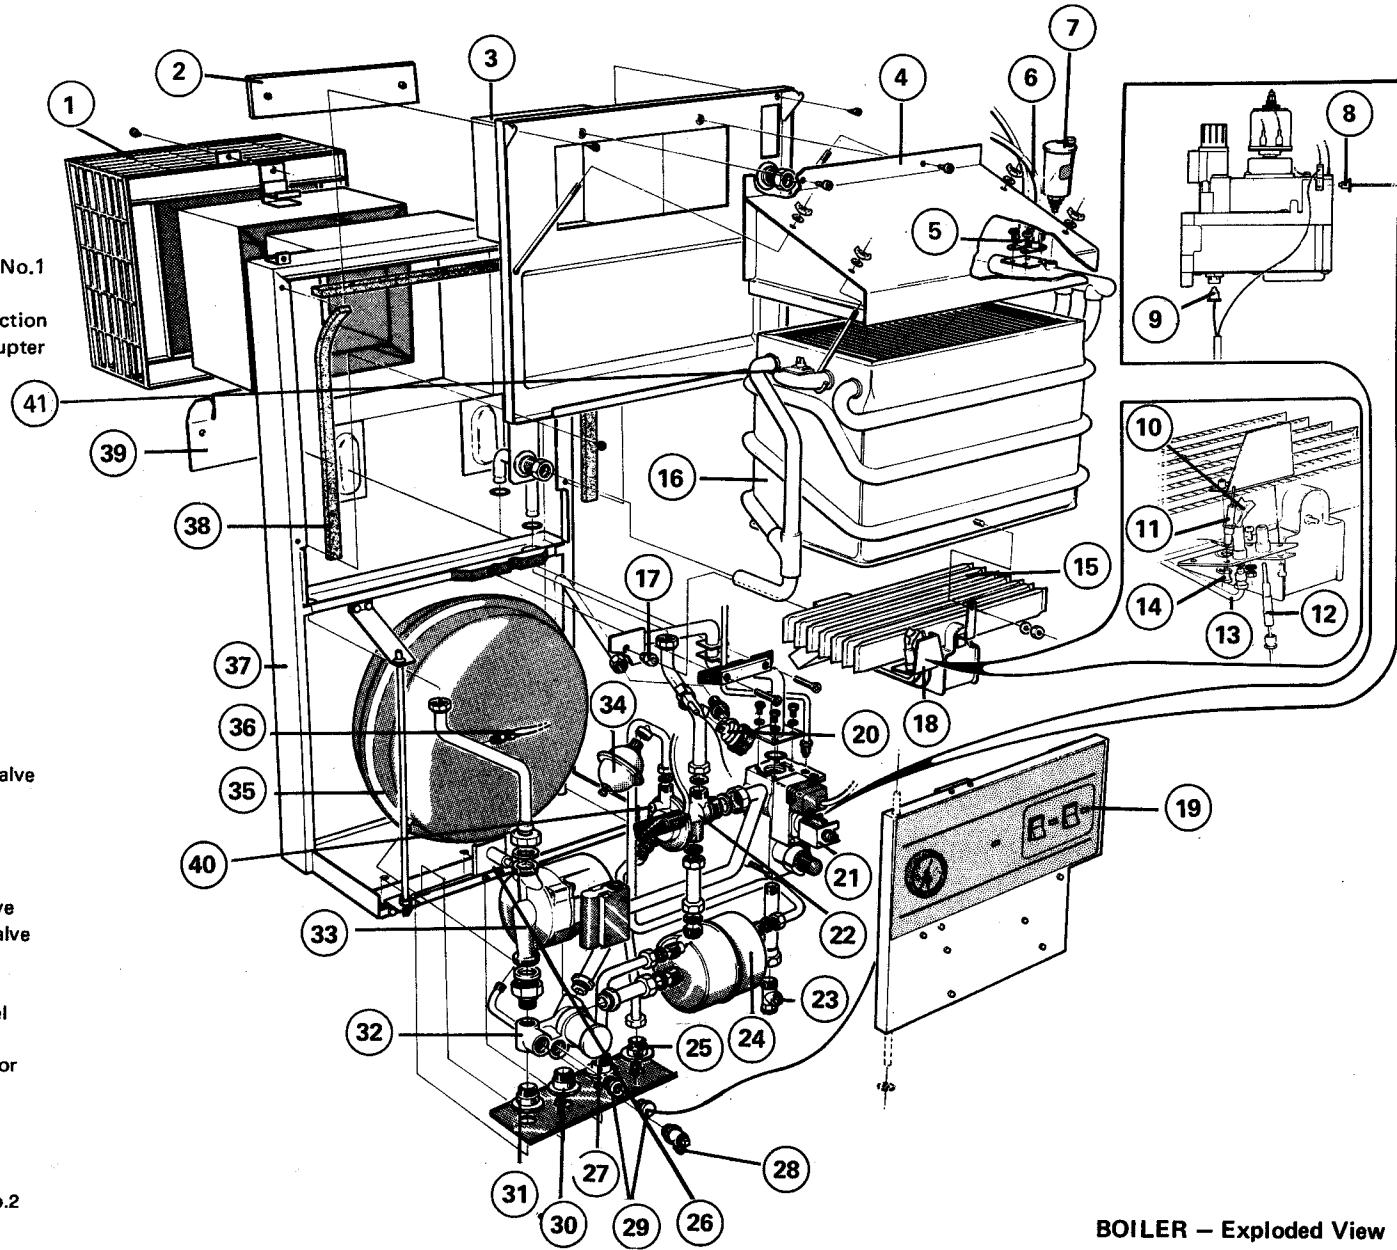

**Fig. 2**
## PREPARING THE WALL – Refer Fig. 2
**FITTING TO THE WALL – Refer Fig. 2**